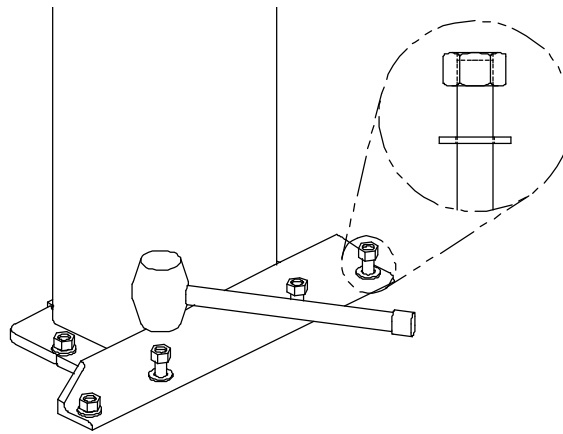

Figure 8
- E. Assemble the washers and nuts onto the anchor bolts. Thread the nuts onto the anchor bolts where the tops of the nuts are just above the top of the bolts, figure 8. Using a hammer, carefully tap the anchor bolts into the concrete until the washer rests against the baseplate. Do not damage the nuts or threads.